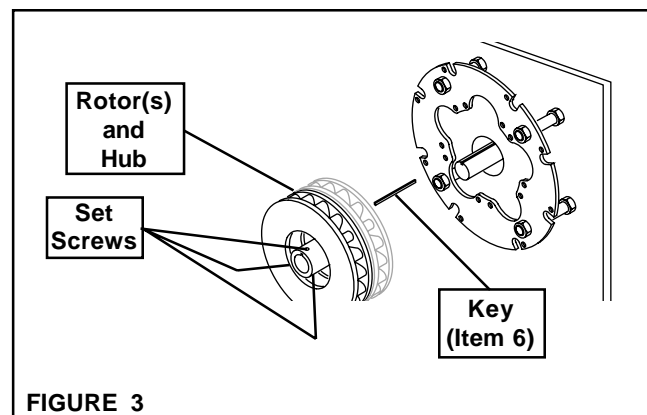

FIGURE 3
- Insert the Key (Item 6) into the machine shaft (See Figure 3).
- Slide the Rotor(s) and Hub (Item 2) onto the machine shaft and Key (See Figure 3).